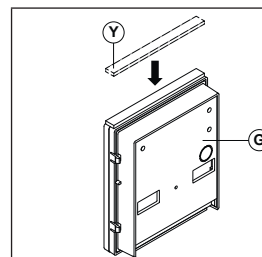

Fig. 7
Apply the (Y) seal as shown in Fig. 7.